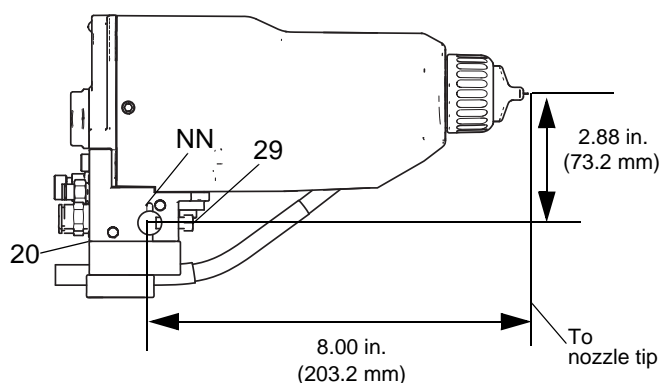

FIG. 4 . Mounting
1. Loosen the manifold's two set screws (29) and slide the manifold (20) onto a 1/2 in. (13 mm) mounting rod. See FIGURE 4.
NOTE: For added positioning reliability, insert a 1/8 in. (3 mm) locating pin into the slot (NN) in the bracket and through a hole in the rod. See the detail in FIGURE 4.